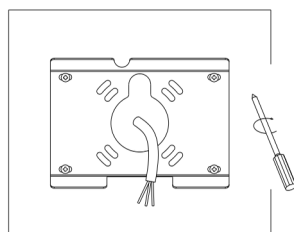

Figure 1-3
- 3.Align mounting bracket with hole; tightens crews.(Figure 1-3)